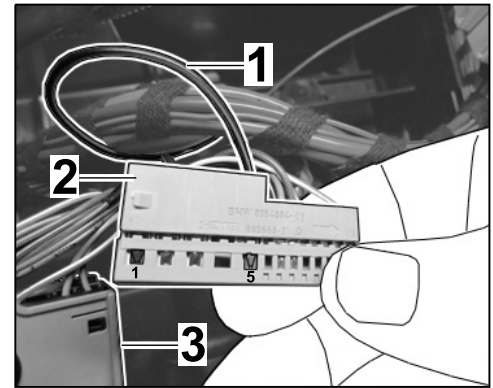

Figure 21
3.2.3 Socket contact; connect line 0.52; BK/YE → socket strip (grey), chamber 5 (⇒ *Figure 21*).